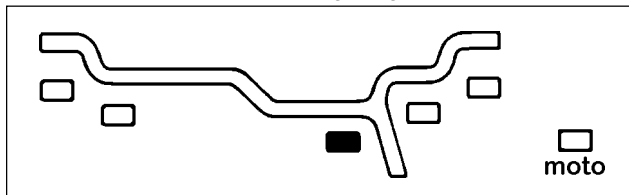

Fig.54
**H. STATIC** (one plane - Fig.54). Suggested for narrow car rims (3" or less). To enter the *Static* program press the **ALU** button and hold it for 3 sec). Do the same operation to return to the previous active balancing program.